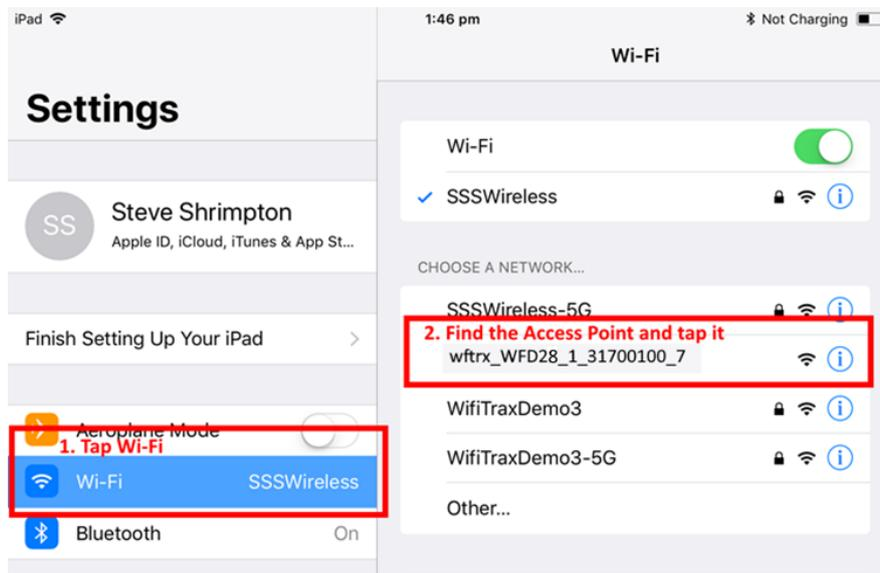

Figure 8 Connecting to the WFD-28 Wi-Fi Access Point
- (3) Before opening the app, make sure your WFD-28 is connected, powered up and there is a locomotive on the track with a known DCC address. Both the red power LED and the blue DCC indicator LED should be alight.
- (4) Now run the Settings app on your iPhone (or iPad etc.):
- (5) Tap Wi-Fi on the left-hand menu. You should see a collection of available Wi-Fi Access Points on your right. Look for one that is of the form wftrx_WFD2X_1_XXXXXXX_7, where XXXXXXXX is the serial number of your unit that appears on its bag and the unit itself. Tap that Wi-Fi Access Point as Figure 8.